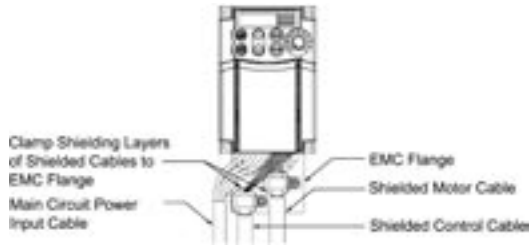

Figure 10.2 Connecting Shielded Cables
- (2) Use shielded wires for the motor power cable and route it as short as possible. Firmly clamp the wire shield to the flange to ground it. Further, connect the wire shield electrically to the grounding terminal of motor. (See Figure 10.2.)
- (3) Use shielded wires for the control signals of the drive to input to/output from the control terminals. Firmly clamp the control wire shields to the EMC grounding flange (in the same way as the power wires).